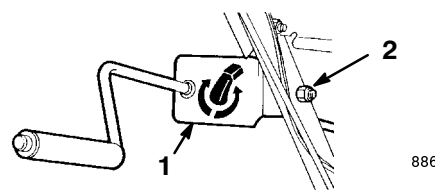

Figure 10
1. Assemble the chute control bracket and rod to the left side of the handle with a cap screw and a locknut. Leave the locknut loose (Fig. 10).
5. Tighten the locknut that secures the chute control bracket (Fig. 10).